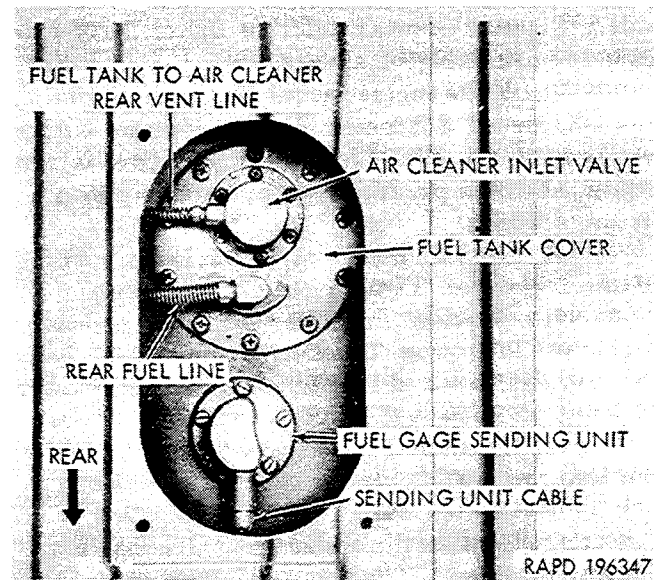

Figure 2-107. Fuel tank cover, air cleaner inlet valve, and fuel gage sending unit.
(1) Drain the fuel tank.
(2) Remove the inspection hole cover from the floor panel and disconnect the fuel tank rear vent line (fig. 2-107) the rear fuel line, and the fuel gage sending unit cable.
b. Replace Fuel Gage Sending Unit (fig. 2-107).
(1) Remove the four lockwasher screws that secure the inspection hole cover to the floor panel and remove the cover.
(2) Disconnect the sending unit cable at the cable connector.
(3) Remove the five screws and washers that secure the sending unit to the fuel tank. Lift the sending unit and tilt it toward the rear to remove the float. Remove and discard the sending unit gasket and clean the gasket surface of the tank.
(4) Apply a light coating of liquid type gasket cement to both sides of a new sending unit gasket, and install the gasket on the fuel tank.
(5) Install the fuel gage sending unit, inserting the rear end of the float first. Position the unit on the tank with the cable connector toward the rear. Install the five special lead washers and special screws. Tighten the screws evenly.
(6) Apply body sealing compound around the inspection hole, and install the inspection hole cover and four lockwasher screws.
(4) If the inlet valve is a separate unit, remove the six screws and lockwashers that secure the inlet valve to the fuel tank cover (fig. 2-107). If the inlet valve is a part of the cover, remove the 10 lockwasher screws that secure the cover. Remove the air cleaner inlet valve or the cover. Remove and